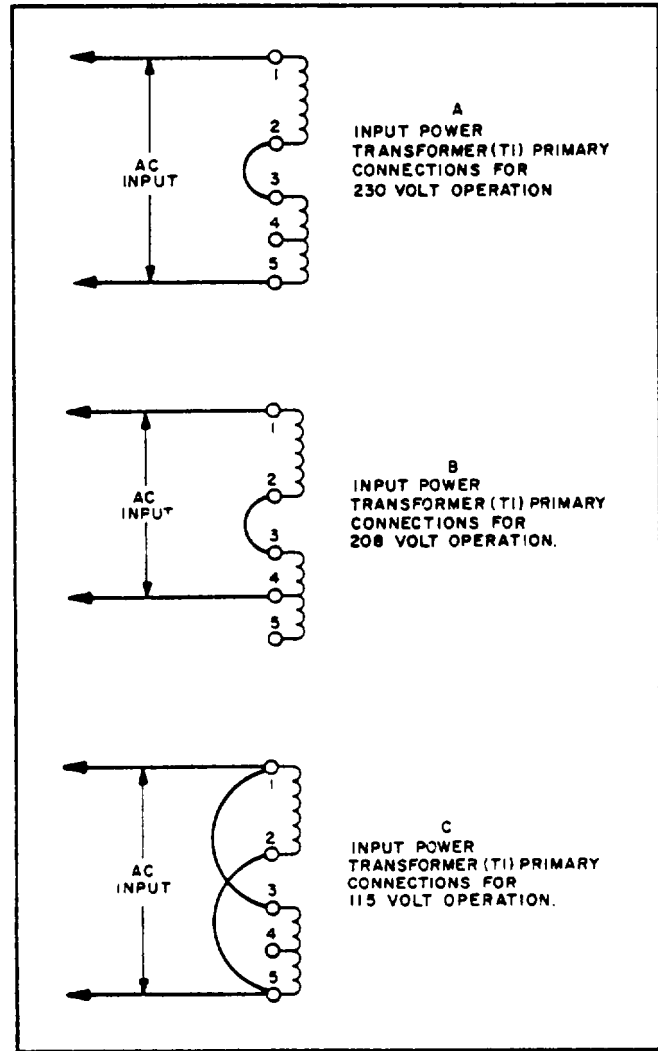

Figure 2-3. Power Transformer Primary Connections for 208Vac and 115Vac Operation . (Model 6259B, 6261B, and 6268B)
d. Unsolder wire connected to terminal 5 of power transformer T1 (see Figure 7-4) and solder it instead to terminal 4 of transformer (see Figure 2-3 B).
- f. Unsolder jumper connecting terminals 2 and 3 of power transformer T1 (see Figure 7-4) and solder jumpers between terminals 1 and 3, 2 and 5 (see Figure 2-3 C).